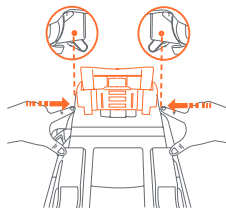

Fig. 59-1
- 1- Press elevation foot release buttons located on the side of the base (Fig. 59-1).